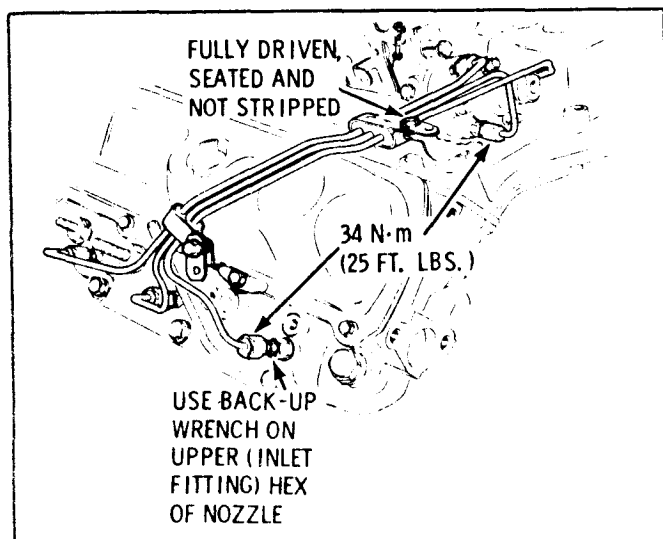

Figure 6C5-18 V6 Injection Lines
3. Remove air crossover (Figures 6C5-6 and 6C5-7 and cap intake manifold with screened covers J-26996-10, V8 and J-29657, V6).